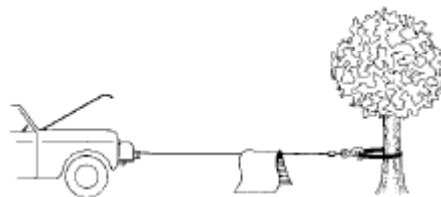

Figure 2
10. If a wire rope failure should occur, the cloth will act as a damper and help prevent the rope from whipping. (See Figure 2)